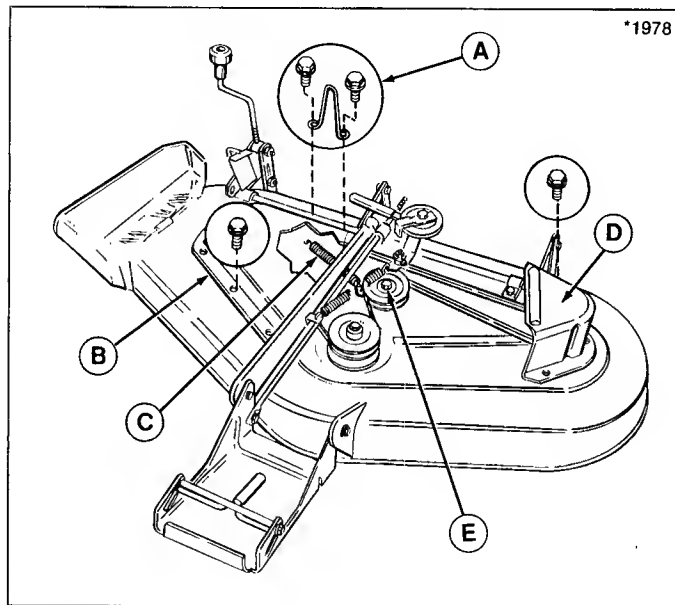

Figure 27.
4. Remove three capscrews securing left hand arbor cover (D, figure 27).
2. Remove two capscrews securing upstop (A, figure 27) and remove upstop.
3. Remove four additional capscrews securing right hand arbor cover (B).
4. Remove three capscrews securing left hand arbor cover (D).
5. Using a vise-grip or pliers, remove idler pulley spring (C) from slot in deck.
6. Loosen capscrew (E) securing idler pulley to bracket. Belt can be slipped between pulley and idler bracket hub.